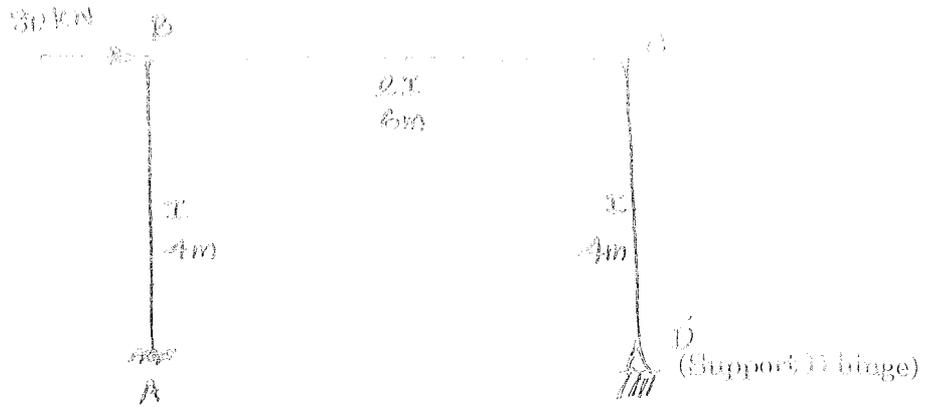

Fig. 7
- (b) A rigid jointed portal frame ABCD is loaded as shown in Fig. 7. Determine the member end moments by moment distribution method.